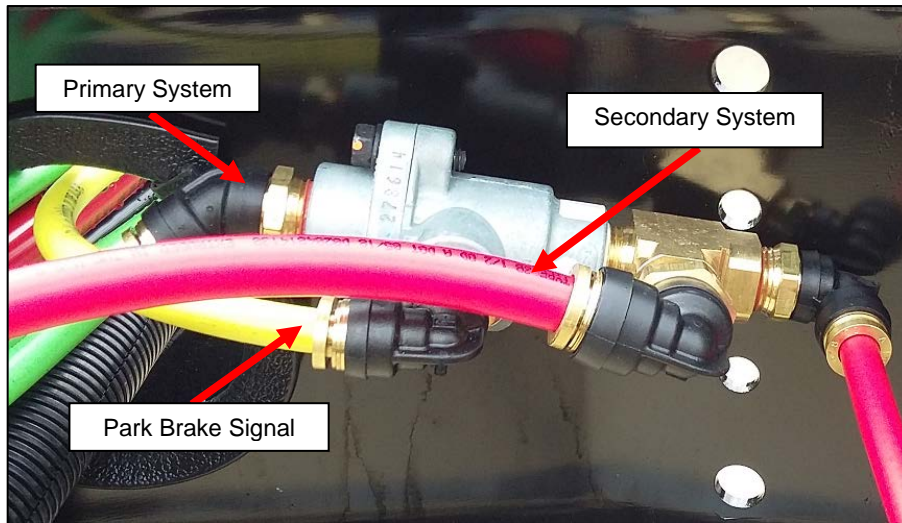

Figure 1: Correct connections of the two hoses
NOTE: The double check valve will be behind the fuel tank at the rear axle and will be visible from underneath. **Figure 1** shows the double check valve on a chassis only, so the connection is clearly visible.
3. Locate the primary (green), spring brake (yellow), and secondary (red) air line connections. If the lines are **not** installed as in **Figure 1**, continue with the next step.